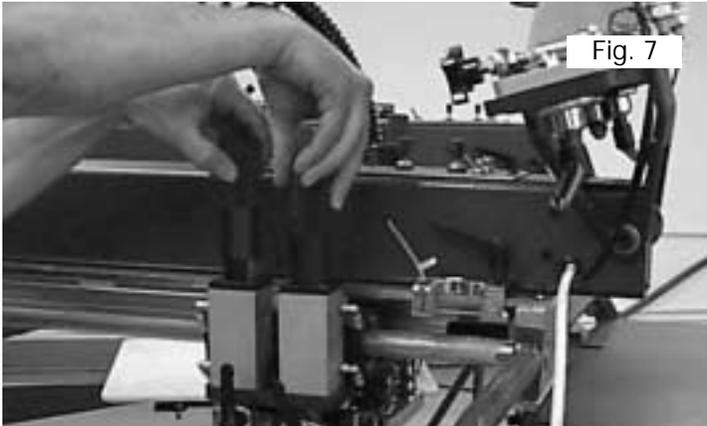

Fig. 7
6. Next, adjust the squeegee/flood bar pressure adjustment knobs (turn clockwise) until the squeegee/flood bar is fully raised. In this position the squeegee/flood bar will not perform the "chopper" motion in the event the print station is inadvertently turned on. In this way damage to the radiant panel is eliminated. (See Fig. 7 top left next page)